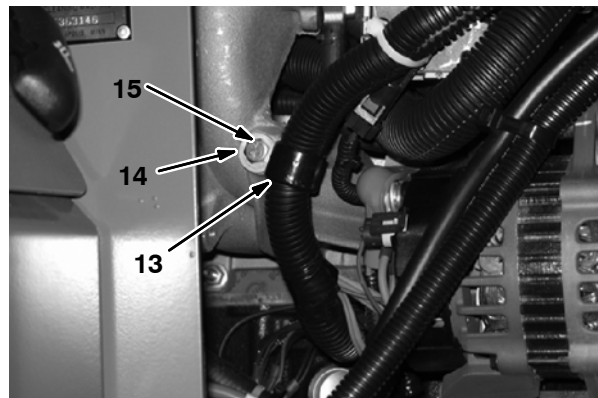

FIG. 13
6. Insert the main wire harness into the cable clamp (13) and use a hex screw (15) and flat washer (14) to secure the main wire harness to the engine, away from the alternator. Refer to Fig. 13.